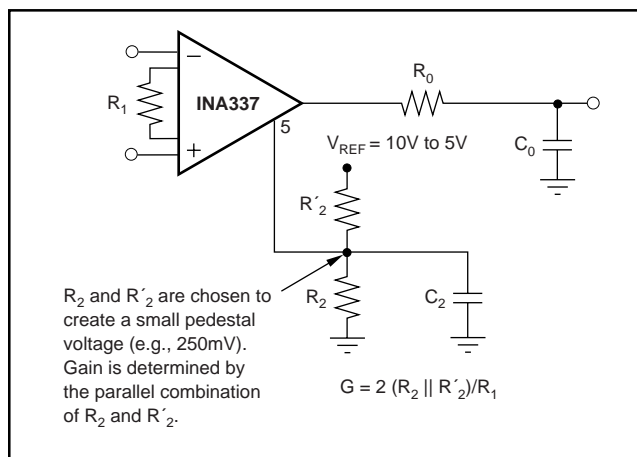

FIGURE 6. Output Range Pedestal.
NOTES: (1) C2 and CO combine to form a 2-pole response that is -3dB at 1kHz. Each individual pole is at 1.5kHz. (2) Output voltage is referenced to IACOMMON (see text). (3) Output pedestal required for measurement near zero (see Figure 6).